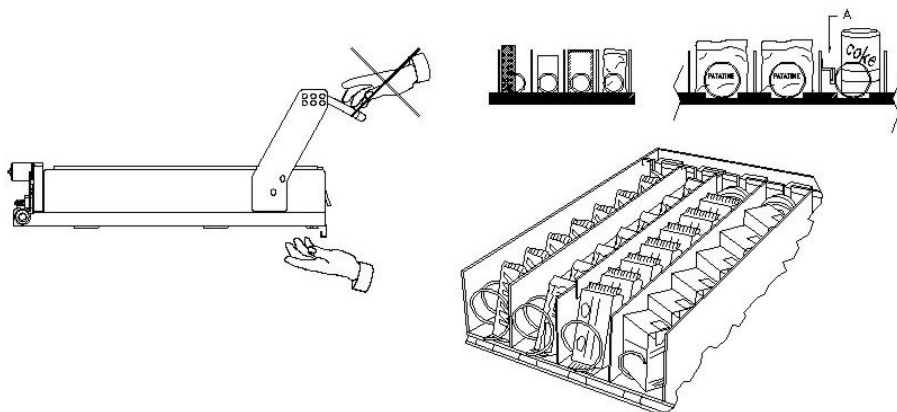

fig. 3
8.2 ENTRETOISES POUR PRODUITS DANS LES TIROIRS (fig.3)